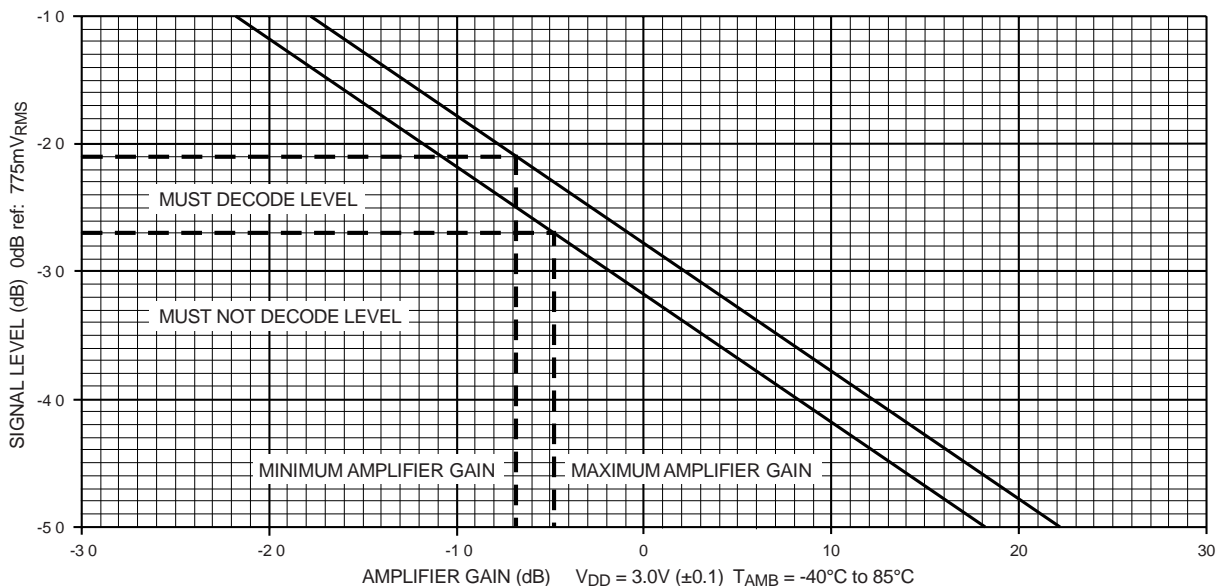
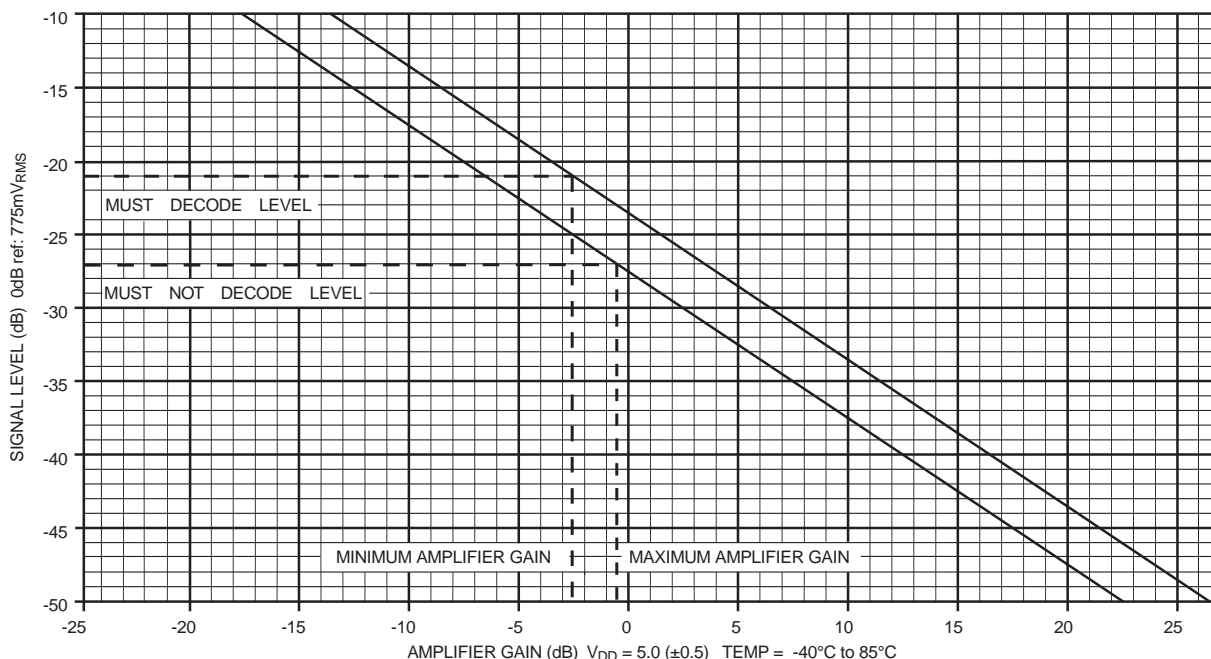

Figure 4: Input Gain Calculation Graph for $V_{DD} = 3.0V$
Figure 5: Input Gain Calculation Graph for $V_{DD} = 5.0V$
With reference to the graphs in Figure 4 and Figure 5, the following steps will assist in the determination of the required gain/attenuation.
1. Draw two horizontal lines from the Y-axis [Signal Level (dB)] in Figure 4 and Figure 5. The upper line represents the required 'Must' decode level. The lower line represents the required 'Must-Not' decode level
Component tolerances should not move the gain-figure outside these limits. The graphs in Figure 4 and Figure 5 are for the calculation of input gain components for a CMX631A using a V_{DD} of 3.0 (± 0.1) or V_{DD} of 5.0 (± 0.5).